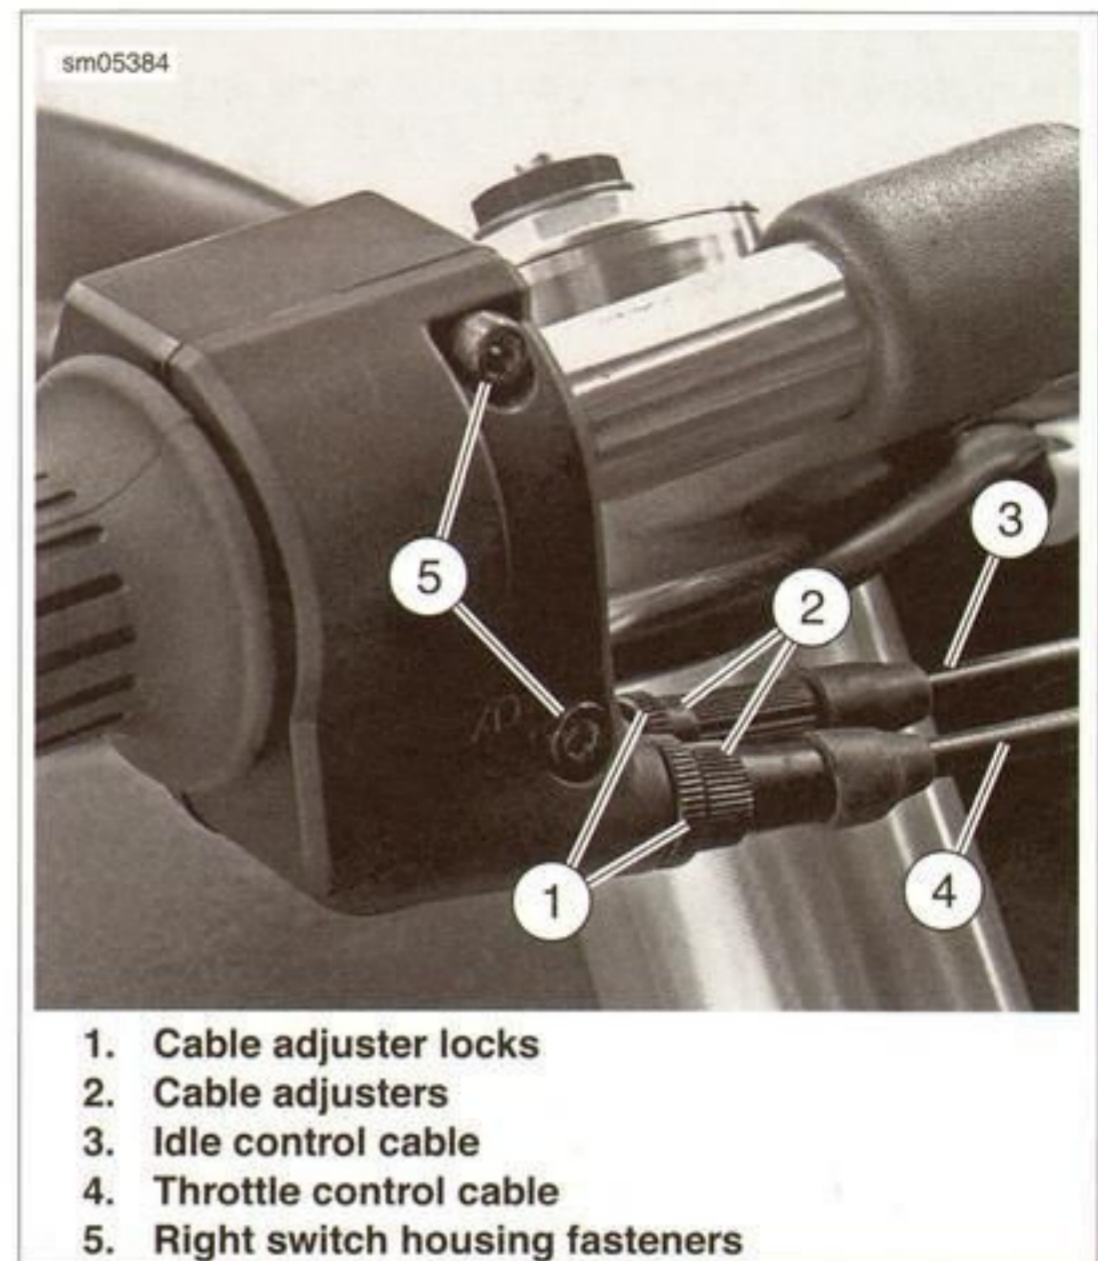
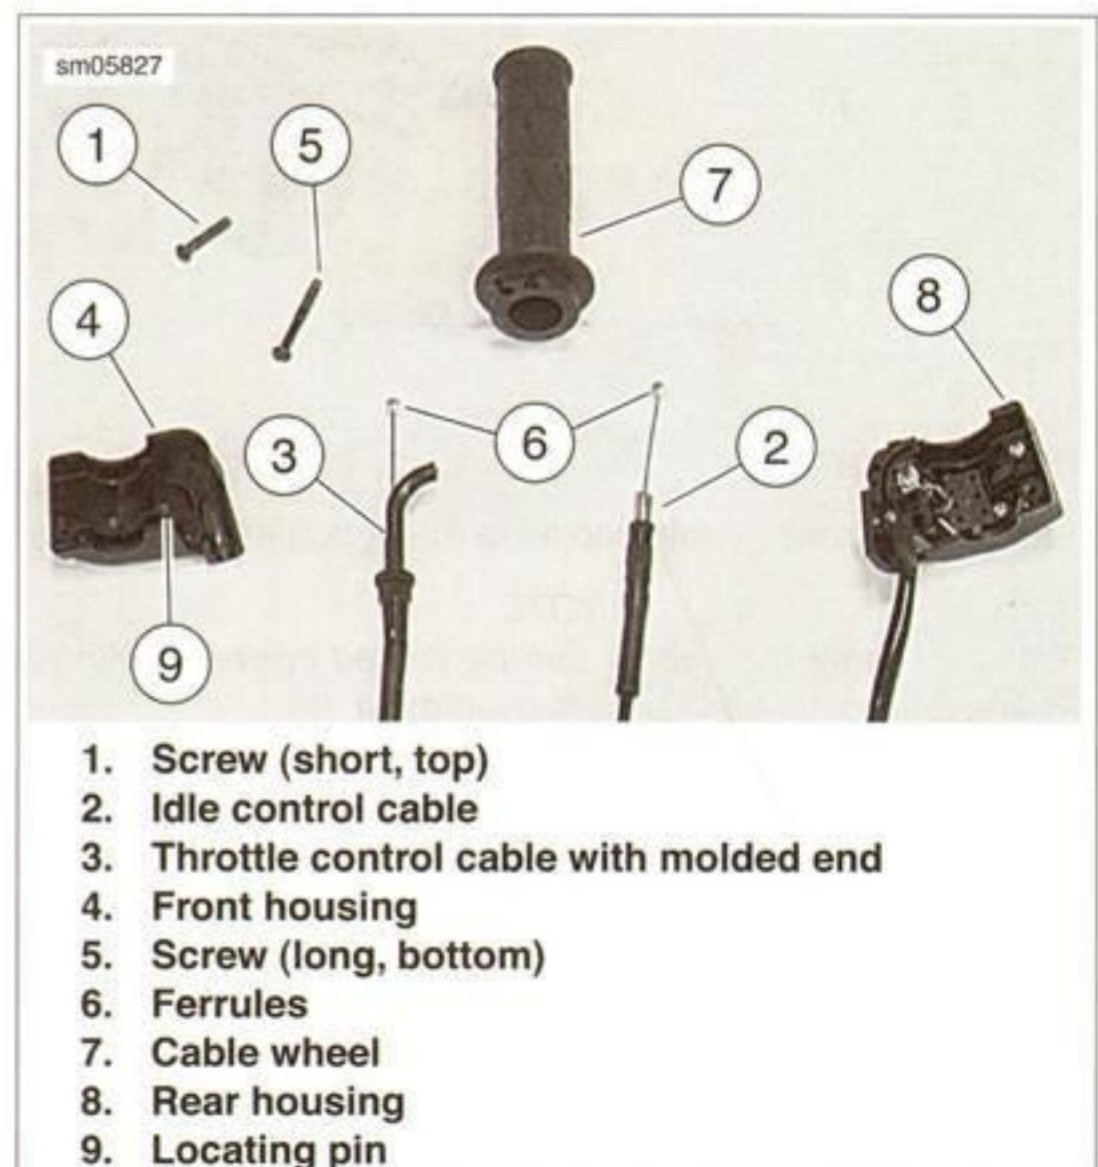

Figure 4-20. Throttle Cable Adjusters
Figure 4-21. Cable Connections
1. See Figure 4-20. Loosen cable adjuster lock (thick disc) (1) on each cable.
2. Turn adjusters (2) in direction which will shorten cable housings to minimum length.
3. See Figure 4-21. Remove fasteners (1, 5) on right switch housing and separate housing from handlebar.
4. Remove cables (2, 3) from notches in front housing (4).
5. Remove cables (2, 3) and ferrules (6) from cable wheel (7).